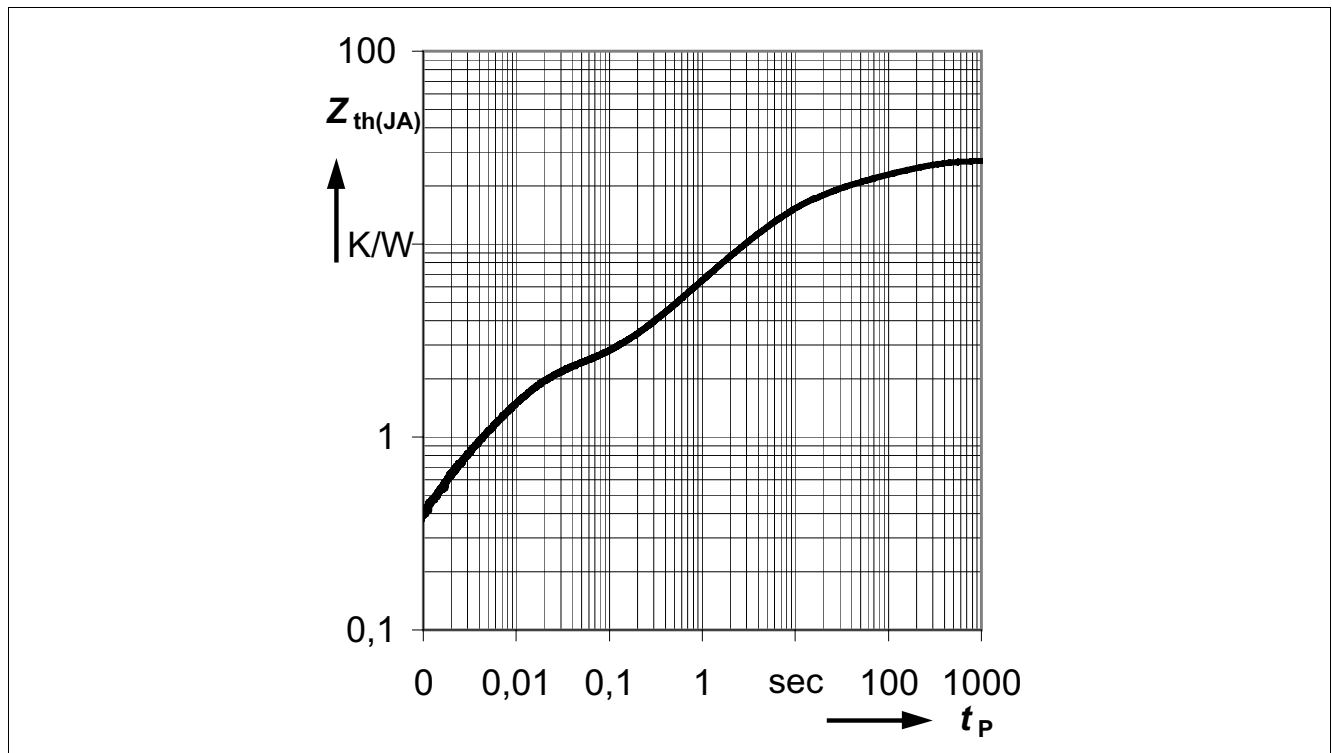

Figure 4 Transient Thermal Impedance $Z_{th(JA)}=f(t_p)$ ⁴⁾
- 4) Specified R_{thja} value and **Figure 4** are according JESD51_7 at natural convection on FR4 2s2p board. The BTS50080-1EGA was measured on a 76.2 x 114.3 x 1.6 mm board with 2 inner copper layers (2 x 70µm Cu, 2 x 35µm Cu) applying power losses of 1.4W at the channel. According to JESD51-5 a thermal via array under the exposed pad contacted the first inner copper layer. $T_a = 25\text{ °C}$.
Figure 4 shows the typical transient thermal impedance of BTS50080-1EGA.